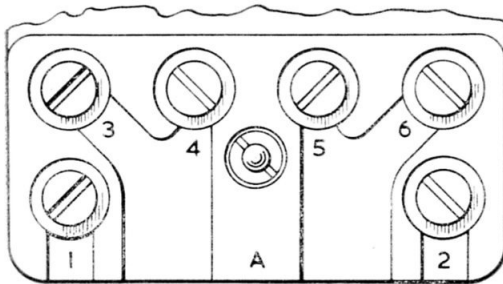
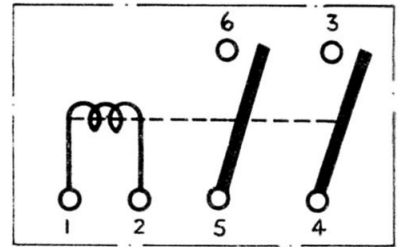

Fig. 3. Terminal positions
Fig. 4. Circuit diagram, Types Q1 and Q2
3. The mechanism is mounted on a base plate of moulded insulating material and the terminal cover is secured by a captive nut. There are six numbered terminals, illustrated in fig. 3, terminals 1 and 2 being connected to the coil, 3 and 4 to one pair of contacts, and 5 and 6 to the other pair of contacts. A circuit diagram appears at fig. 4.